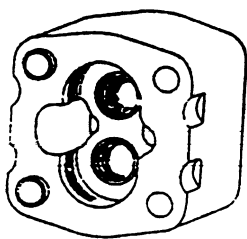

Fig. 7-12
- (c) Front and rear cover (Fig. 7-12)